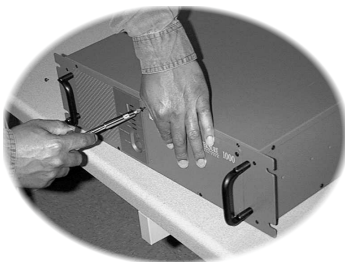

Figure 1
1. Using a Phillips (cross head) screwdriver loosen the (4) screws around the battery door as in Figure 1. Carefully remove the battery door by pulling it forward. Lay the battery door and screws aside for reassembly.